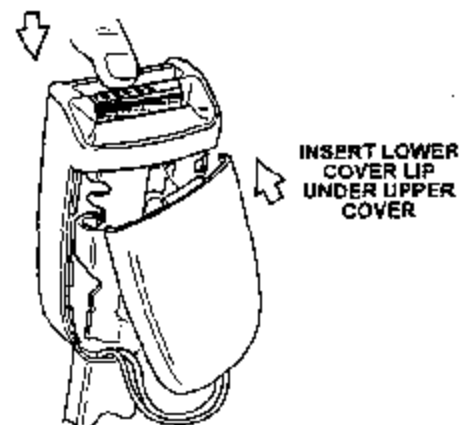

Figure 15
21. While depressing the release button, assemble the lower cover to the upper cover by inserting the lip on the lower cover under the upper cover, then snapping the parts together (Figure 15).